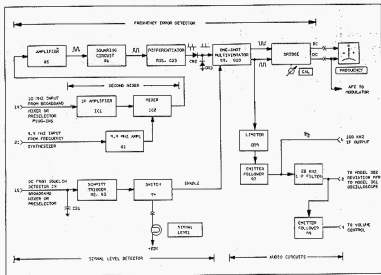

Figure 4-4. Second IF and Discriminator Circuits, Simplified Block Diagram
- 4.104 Figure 4-4 is a block diagram of the Second IF and Discriminator circuits and Figure 6-5 is the schematic.
4.110 For more than half the frequencies that can be selected, the L.O. frequency is 10 MHz below the dialled frequency, Table 4-1. When this is true, relay A4K1 on the Frequency Meter board, Figure 4-4, is de-energized and the input from the Q10 side of the Frequency-Error Detector is applied to the positive side of the meter.